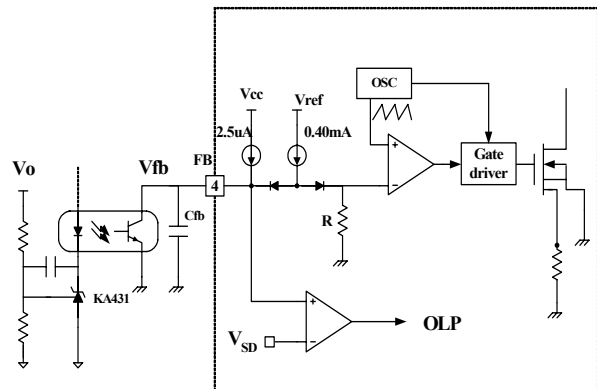

Figure 6. PWM and Feedback Circuit
2. Feedback Control : The FSDM101 products are the voltage mode devices shown in Figure 6. Usually, an opto-coupler and KA431 type voltage reference are used to implement the feedback network. The feedback voltage is compared with an internally generated sawtooth waveform. This directly controls the duty cycle. When the KA431 reference pin voltage exceeds the internal reference voltage of 2.5V, the optocoupler LED current increases, pulling down the feedback voltage and reducing the duty cycle. This will happen when the input voltage increases or the output load decreases.